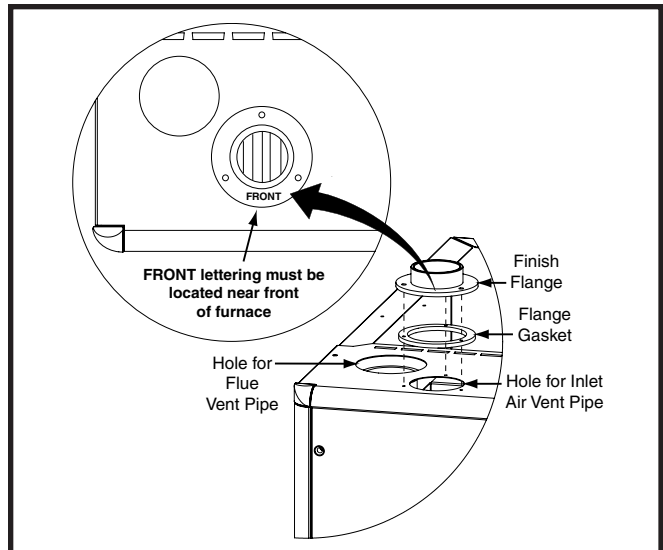

Figure 17. Finish Flange
The finish flange must be installed to vent the combustion air pipe through the top of the furnace. **NOTE:** For proper installation it is important that the pipe and screw holes in the finish flanges, gasket, and cabinet are aligned. See Figure 17.
2. Position finish flange on top of the flange gasket. **NOTE:** Make sure the flange is properly oriented so that the FRONT lettering is located near the front of the furnace as shown in Figure 17.